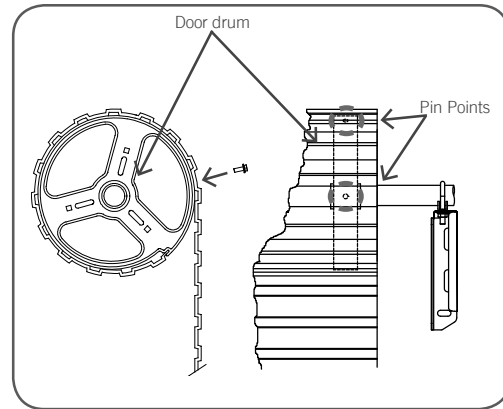

Fig.07
- Mark drill holes at both ends of the drum (**Fig. 07**).